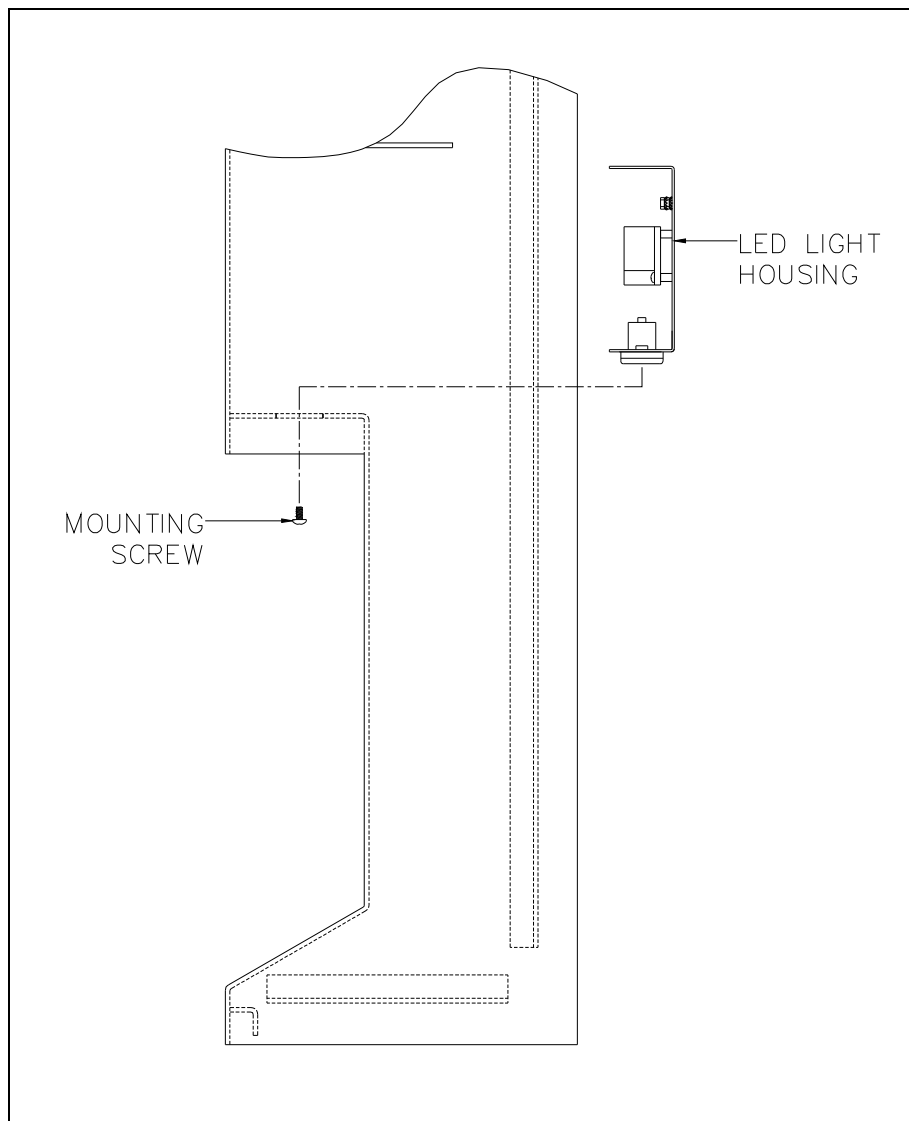

Figure 5. Station Panel Light Assembly
1. Align the station panel light assembly inside the station (see Figure 5).